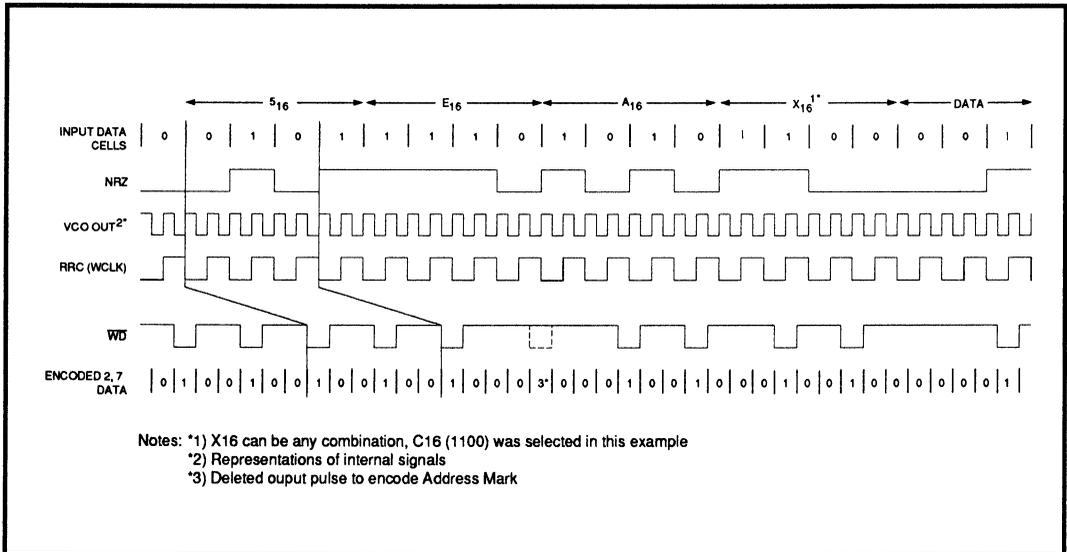

FIGURE 8: Write Address Mark Generation
In the Soft Sector Mode, when WRITE GATE (WG), transitions high and the NRZ input is held low, the SSI 32D5321 automatically generates the 3T (100) Preamble Field at the WRITE DATA (\overline{WD}), output. The 3T Preamble Field will continue to be generated until the first low to high transition on the NRZ line. As shown in Figure 8, the first low to high transition occurs with the second bit '1' of the 5_{16} (0101) in the $5EAX_{16}$ Address Mark generation pattern. To generate the Address Mark, the SSI 32D5321 automatically changes the '1' in the eleventh position (see note 3) of the 2, 7 RLL encoded sequence, to a '0'. This generates a pattern of seven zero's followed by two zero's. This unique pattern satisfies the 2, 7 RLL constraints, but will never occur during a normal encoding sequence. The x_{16} of the $5EAX_{16}$ Address Mark generation pattern can be selected, a 'C₁₆' (1100) was utilized in this example.